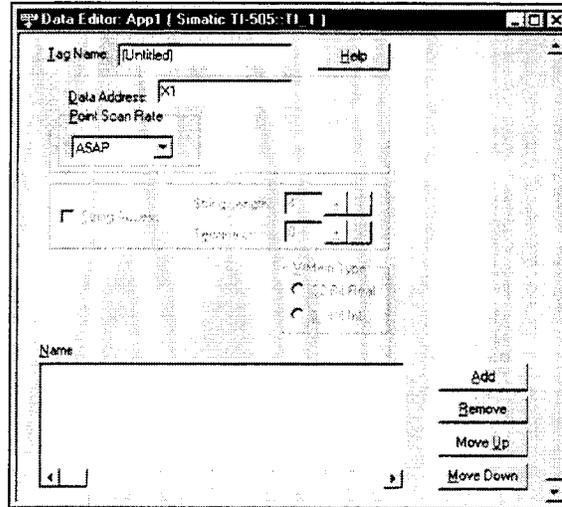

Figure 7. Simatic TI-505 Data Point Configuration Form
2. Double-click on the driver name for which you want to configure tag names. The Simatic TI-505 data point configuration form opens, as shown in Figure 7.